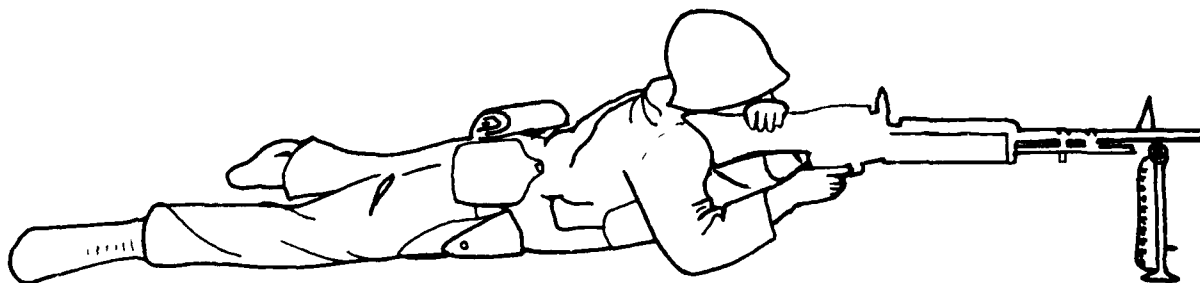

Figure 5-28.—Prone position with bipod-mounted gun.
**BIPOD-MOUNTED GUN.**—When firing the M60 from the bipod (fig. 5-28), you must assume a prone position to the rear of the gun. Place your